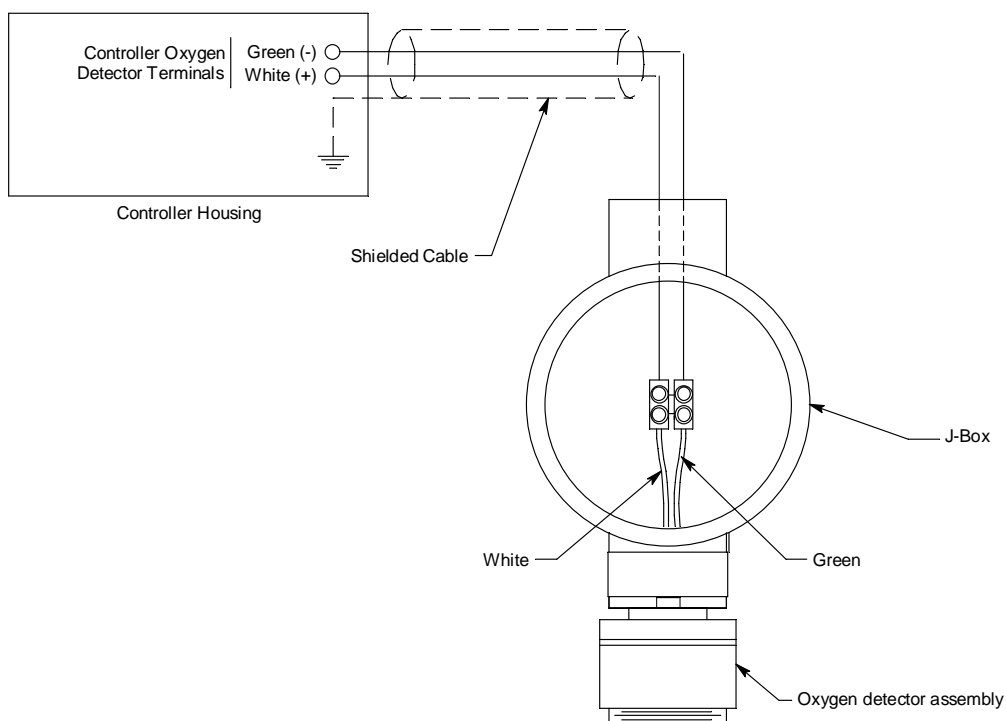

Figure 4: Wiring the Oxygen Detector to a Controller
If the detector is mounted directly to a controller, it is normally factory wired. Confirm that the detector's white and green wires are connected to the appropriate controller detector terminals and skip to "Start Up" on page 6. See Figure 4, the controller operator's manual, and the controller's detector head specification sheet for the 65-2494RK detector for the wiring connections.
7. If the detector is installed directly on a controller, connect the detector leads to the appropriate detector terminal strip terminals. See Figure 4 on page 5 for wiring to a generic controller. See the controller operator's manual and the controller's detector head specification sheet for the 65-2494RK detector for wiring specific to your controller.
If the detector is installed remotely from a controller in a junction box, connect the detector leads to the terminal block the same way the old detector was wired (see Figure 4 on page 5). See the controller operator's manual and the controller's detector head specification sheet for the 65-2497RK detector to verify the connections to the controller are correct.